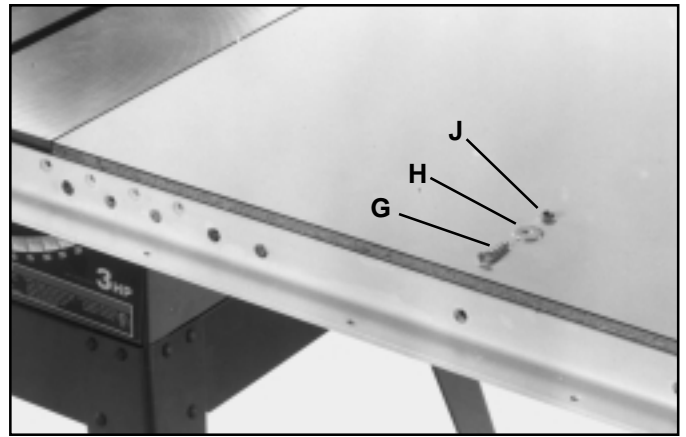

Fig. 22
2. After the holes have been drilled in the front and rear edges on the extension table, fasten both front and rear rail to table using the 1-1/2" flat head Phillips screws (G) Fig. 22, 1-1/4" O.D. flat washers (H) and hex nuts (J) supplied.